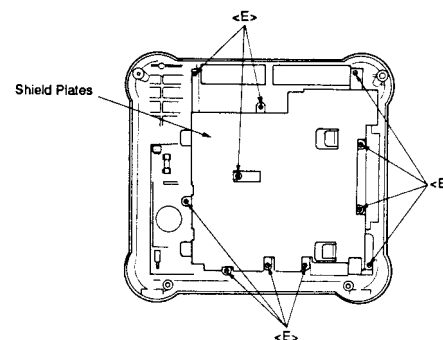

Figure 8
(3) Remove all eleven screws <E> (2.6 x 8 mm) as shown in Figure 8.
(4) Carefully raise shield plate.